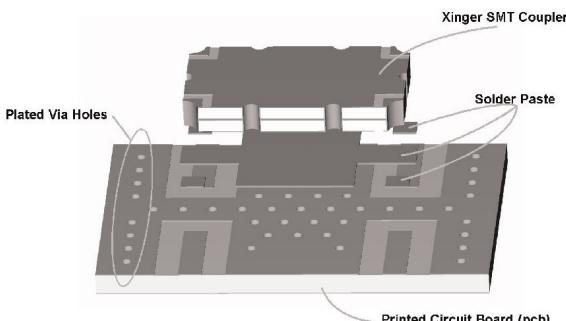

**Figure 2: Solder Paste Application**
**Solder Paste:** All conventional solder paste formulations will work well with Anaren's Xinger II surface mount components. Solder paste can be applied with stencils or syringe dispensers. An example of a stenciled solder paste deposit is shown in Figure 2. As shown in the figure solder paste is applied to the four RF pads and the entire ground plane underneath the body of the part.